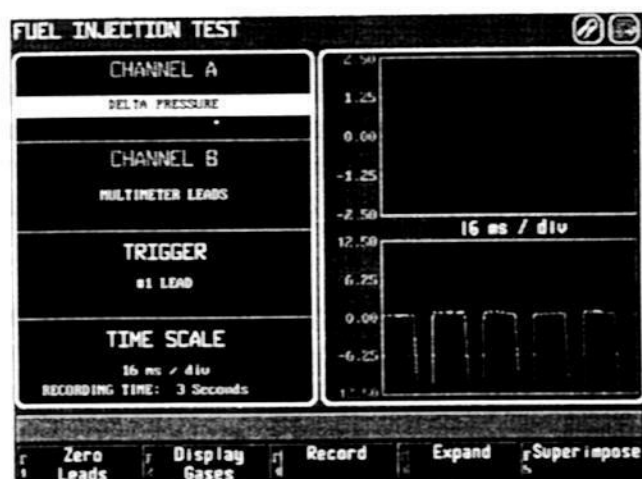

Figure 3-14
3. Start the engine. Select the *Fuel Injection Test* from the *Fuel System* menu. The *Fuel Injection Test* screen appears (see Figure 3-14).
Look at the patterns which appear in the meters. If the fuel pressure pattern looks smooth, or appears as a nearly straight line, bleed the air out of the fuel system. Drain any excess fuel into a proper container. Repeat the procedure until fuel pressure pattern looks well-defined, as shown in Figure 3-14.